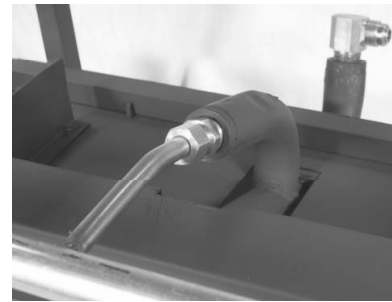

Figure 8
7. Place the ember burner pipe, PORT HOLES DOWN or facing the floor, into the compression fitting, on the end of the ember burner gas feed. See Figure 8.